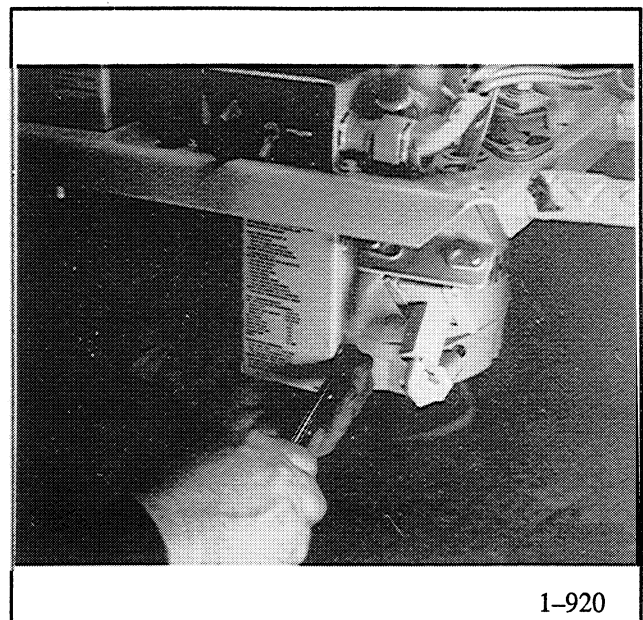

Figure 5-4. Removing Capacitor Box Cover.
5. Remove four screws from cover on capacitor box. (Figure 5-4).